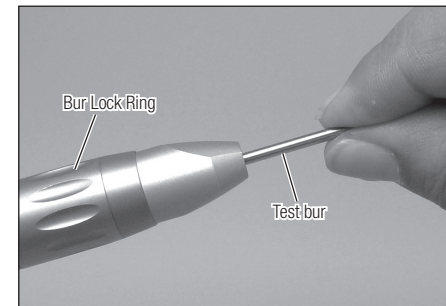

Fig. 15
- 1) Insert the supplied Test Bur into the handpiece and lock the chuck by turning the Bur Lock Ring (Fig. 15).
- Be sure to remove the bur from Air Turbine and Contra Angle Handpieces before attaching the handpiece to the adaptor or Joint. For Straight handpieces be sure to insert the supplied Test Bur and lock the chuck before connecting to the E-Type handpiece joint (Fig. 15).